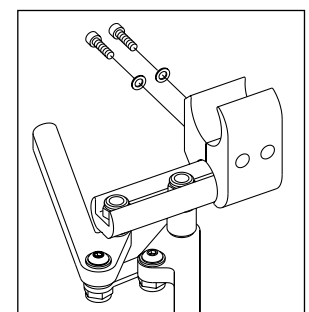

Figure 24
2. High-Mount Scissor Wheel Locks Adjustment: (Fig. 24)